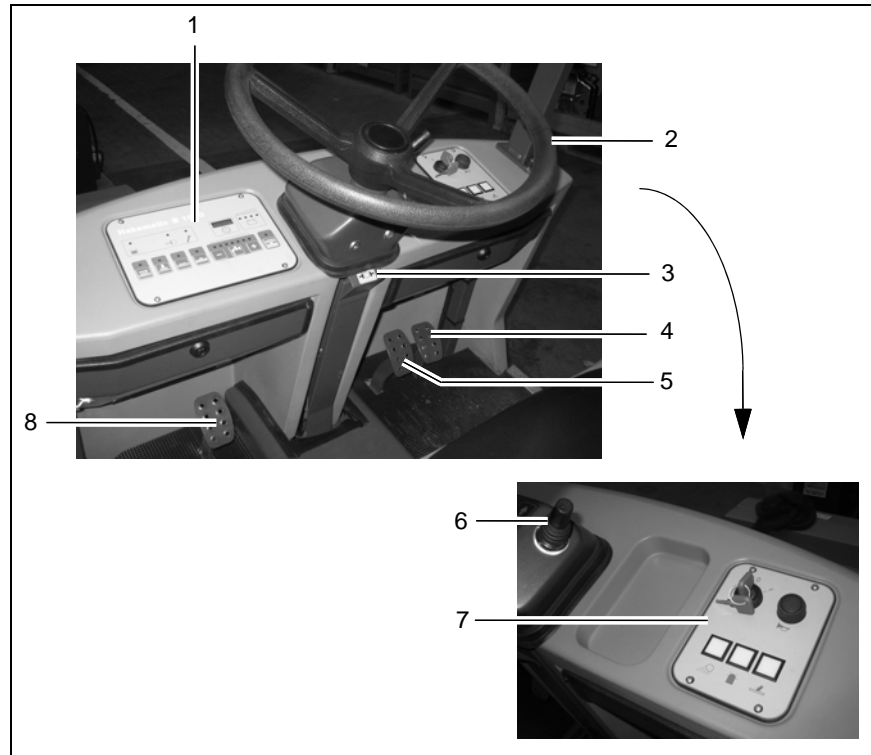
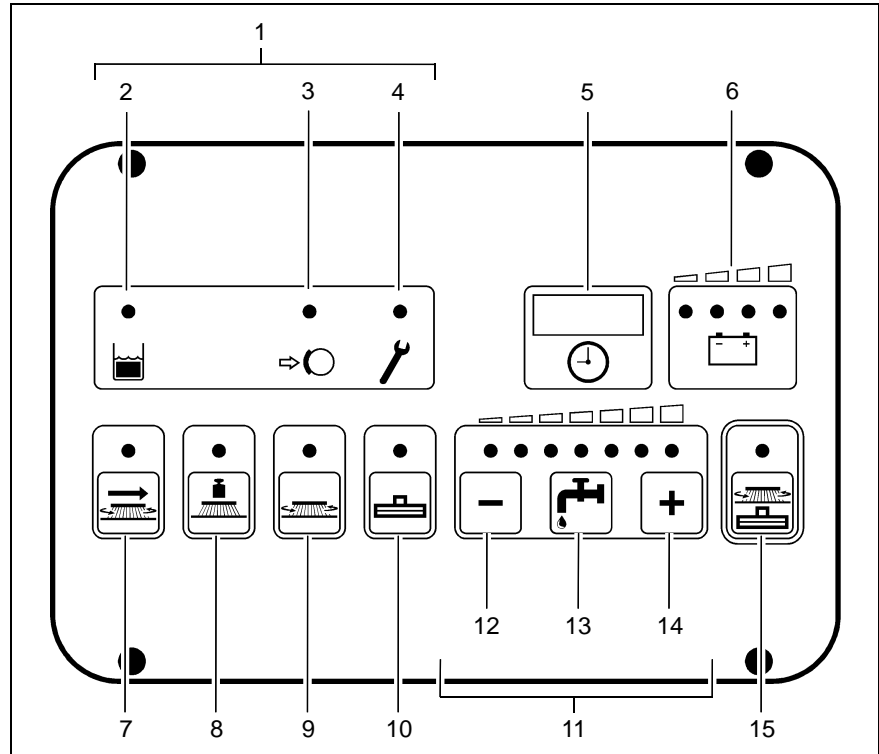

Fig. 16
Fig. 17
(Fig. 16/1)
(Fig. 16/2)
(Fig. 16/3)
(Fig. 16/4)
- Before actuating the accelerator, use the driving direction switch (Fig. 16/6) to set the direction of travel: forwards or reverse.
- To stop securely, apply the service brake (Fig. 16/5).
An acoustic warning signal (buzzer) is issued should the hydraulic motor overload. At the same time, the red alarm lamp (Fig. 16/4) lights up in the left-hand operating panel (Fig. 17/1) and the driving speed is reduced by approx. 50%. In addition, an error code appears in the service indicator (Fig. 17/5).
(Fig. 16/5)
(Fig. 16/6)
(Fig. 16/7)
(Fig. 16/8)
- When the parking brake is applied, the corresponding control lamp on the operating panel (Fig. 17/3) lights up red.
Before getting out of the vehicle apply the parking brake, set the driving direction switch (Fig. 16/6) to its neutral position and switch the key switch to off.
3.2.2 Left-hand operating panel (Fig. 17)
Indicator field (Fig. 17/1)
Indicator for recovery tank maximum fill level (Fig. 17/2)
Indicator for parking brake applied (Fig. 17/3)
Indicator for function faults (Fig. 17/4)
At the same time, a four-digit code appears in the display of the service indicator (Fig. 17/5). This error code infers which fault has occurred (refer to Section 3.5.1). At the same time, the control lamps flash and an acoustic, pulsating signal is issued.
(Fig. 17/5) The four-digit LED serves to display the operating hours.
(Fig. 17/5) The same LED also serves for a more accurate determination of function faults.
(Fig. 17/6) After switching on the key switch, all four lamps light up when the battery is fully
(Fig. 17/7) This button is used to activate the side scrubbing unit. After pressing the button, the two brushes start or stop rotating and the brush is lowered or raised accordingly. When the side scrubbing unit is activated, the green control lamp lights up.
(Fig. 17/8) This button is used to increase the brush pressure. This may be necessary when the area to be cleaned is extremely dirty. The pressing force can be increased to max. 47 kg. If the function is active, the green control lamp lights up.
(Fig. 17/9) This button serves to switch the brushes and solution feed on and off with simultaneous, respective lowering and raising of the brush head. If the function is active, the green control lamp lights up.
(Fig. 17/10) This button serves to switch the suction turbine on and off with simultaneous lowering and raising of the squeegee. If the function is active, the green control lamp lights up.
(Fig. 17/11) The solution consumption used during cleaning can be regulated in seven stages. Accordingly, there are seven green control lamps on the keypad. Each lamp relates to one stage. The maximum quantity which can be used for cleaning is 5.5 l/min (all seven lamps are on). The minimum quantity is 1.25 l/min (only the left lamp is on). The last solution quantity selected is always used. When the scrubbing program is switched on for the first time, a solution quantity of approx. 3.5 l/min is automatically set.
(Fig. 17/12) The button serves to reduce the solution quantity supplied to the brushes. The solution quantity can be reduced in seven stages (see above). The selected stage remains programmed (last station memory) even if the vehicle is switched off temporarily.
(Fig. 17/13) This button serves to switch the solution feed on and off when the brush head is lowered. The solution quantity previously set remains unaltered (last station memory).
(Fig. 17/14) The button serves to increase the solution quantity supplied to the brushes. The solution quantity can be increased in seven stages (see above). The selected stage remains programmed (last station memory) even if the vehicle is switched off temporarily.